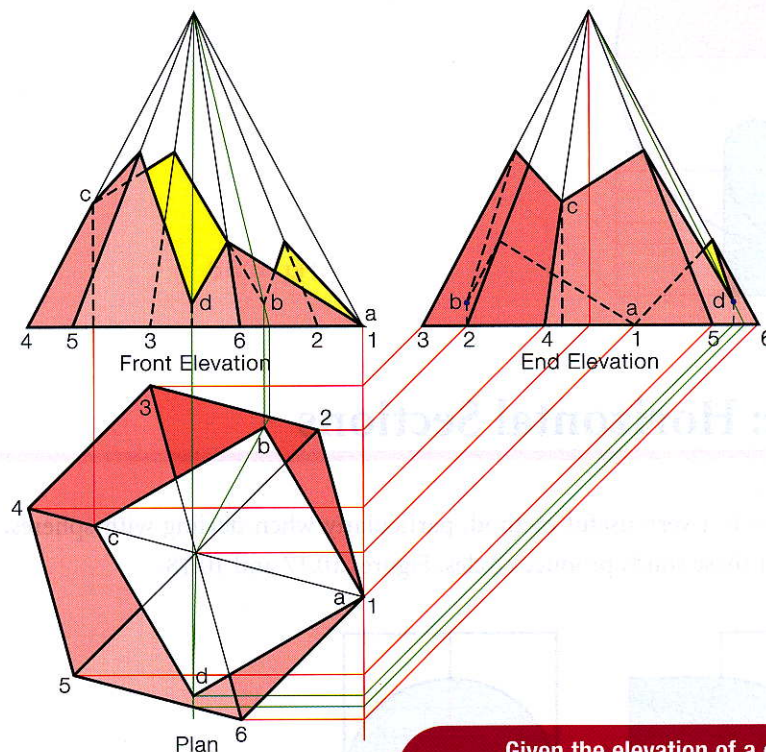

Fig. 10.14
- (1) The construction is as before.
- (2) Draw the front elevation and end elevation simultaneously as some of the bend points are easier to find in one than the other.
- (3) An element is drawn through point b in plan. This element is found in the front elevation and point b is found.
- (4) Another element is drawn through point d in plan. This element is found in the end elevation and point d is found, Fig. 10.14.